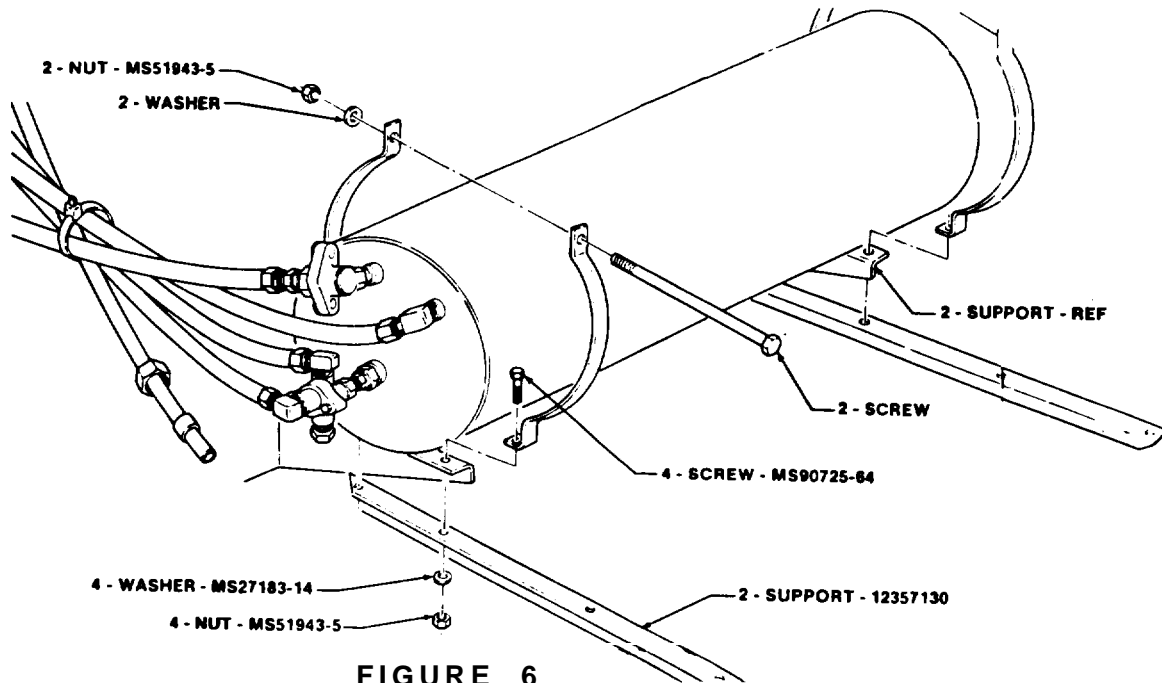

FIGURE 6
(11) Install two 12357130 supports and two existing clamp assemblies to two existing supports and secure with four MS90725-64 screws, MS27183-14 washers, and MS51943-5 nuts as shown in figure 6. Tighten nuts finger tight.
(12) Install two screws, clamps, washers (removed in step 9), and MS51943-5 nuts as shown in figure 6. Tighten nuts finger tight.
(13) Secure nuts installed in steps 11 and 12.